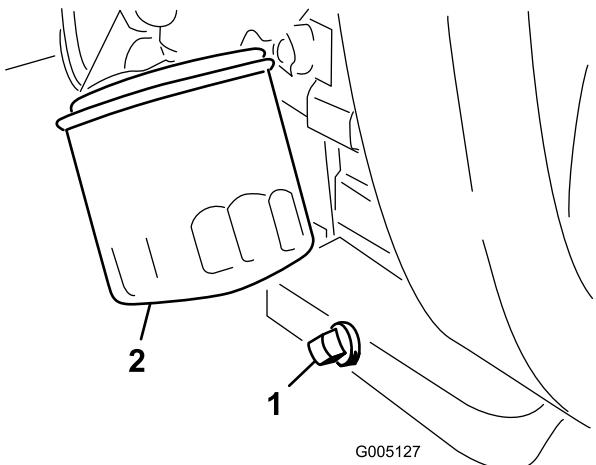

Figure 45
- Remove the drain plug (Figure 45) and let oil flow into a drain pan. When the oil stops, install the drain plug.
- Remove the oil filter (Figure 45). Apply a light coat of clean oil to the new filter gasket.